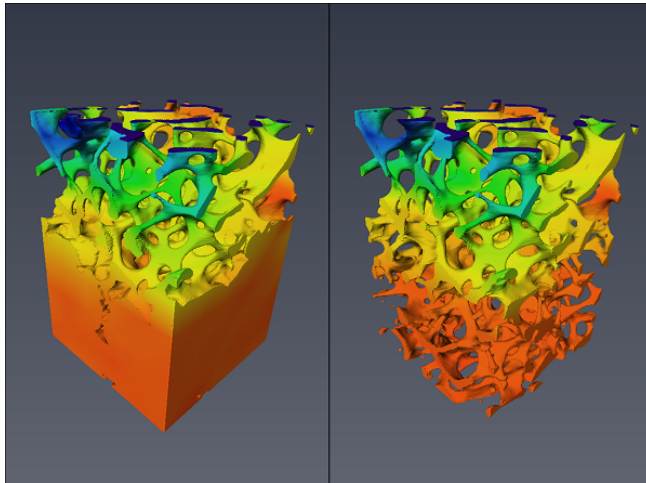

Figure 19.17: 3D Visualization of the Axial Strain in the Bone-Cement (left) and Bone phase (right)
- Using the *Buffer* port, click on **Clear** action button then select a Material of interest (bone or cement) and click on **Add** action button to display it. (see Figure 19.17).